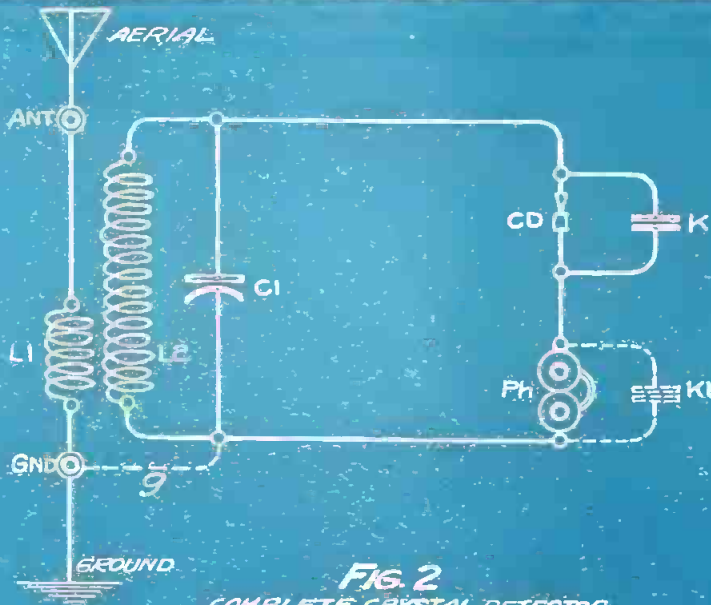
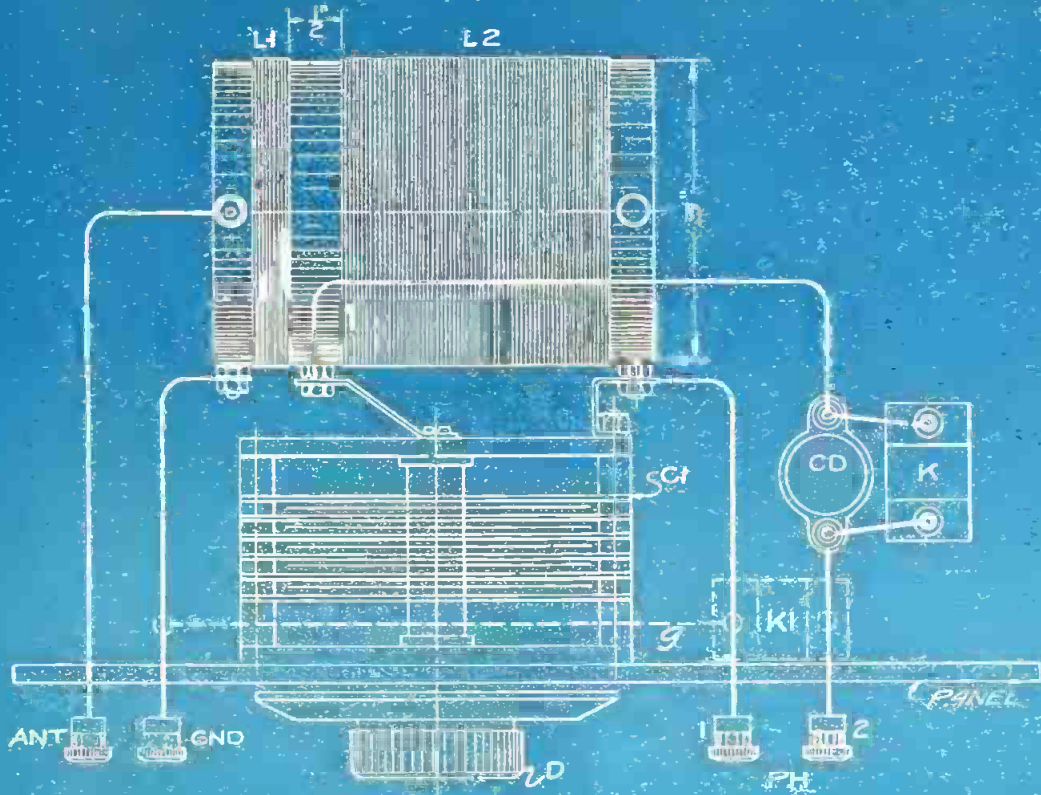

FIG. 2
FIG. 3
In Fig. 2 we have the schematic diagram of the complete circuit. The coupler consists of the primary coil (L1) connected at one end to the aerial and to the ground at the other end. The radio impulses from (L1) are communicated to the secondary coil (L2) which is identical with the coil (L) in Diagram (B). A variable condenser (C1) is connected across the secondary coil so that it can be tuned to wavelength. The fixed condenser (K) connected across the crystal detector (CD) serves the purpose already described. The phones (Ph) are in series with the crystal detector.
A complete drawing of the circuit with all of the parts in place is shown by Fig. 3, the letters in this drawing corresponding with similar letters in the schematic diagram of Fig. 2. A detail view of the coupler coil is shown which is connected to the variable tuning condenser (C1), the latter being connected directly across the secondary coil (L2) of the tuning in-